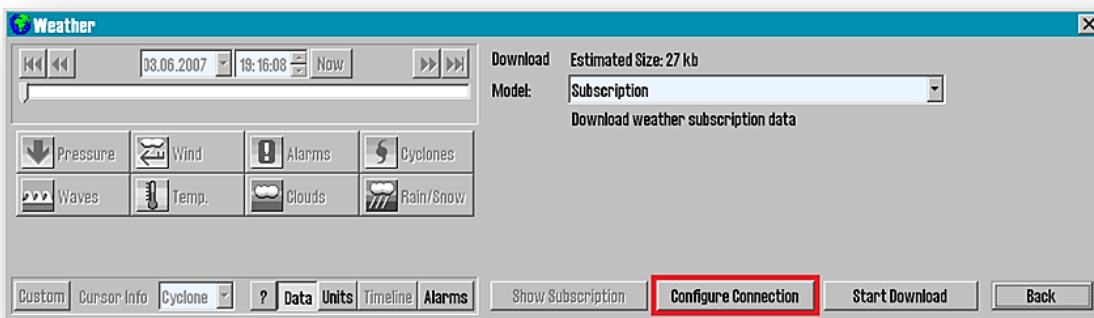

fig.3
c) Before first use, the connection must be configured:click the "Configure Connection" button (fig.3).